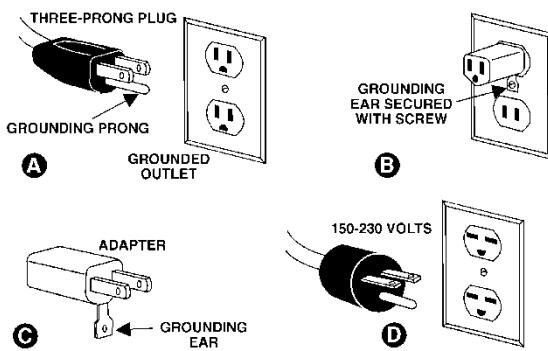

Figure 6-1
The JWBS-15 and JWBS-18 Band Saw are for use on a nominal 115-V circuit, and have a grounded plug that looks like the plug illustrated in sketch A in Figure 6-1. A temporary adaptor that looks like the adaptor illustrated in sketches B and C may be used to connect this plug to a 2-pole receptacle as shown in sketch B if a properly grounded outlet is not available. The temporary adaptor should be used only until a properly grounded outlet can be installed by a qualified electrician. The green colored rigid ear, lug, or the like extending from the adaptor must be connected to a permanent ground such as a properly grounded outlet box cover. Whenever the adaptor is used, it must be held in place by a metal screw.
2. The 115V attachment plug supplied with the band saw (A, Figure 6-1) must be replaced with a UL/CSA listed plug suitable for 230V operation (D, Figure 6-1).
The band saw with a 230V plug should only be connected to an outlet having the same configuration (D, Figure 6-1). No adapter is available or should be used with the 230V plug.
This tool is intended for use on a circuit that has an outlet that looks like the one illustrated in D, Figure 6-1. The tool has a grounding plug that looks like the plug illustrated in D. Make sure the tool is connected to an outlet having the same configuration as the plug. No adapter is available or should be used with this tool. If the tool must be reconnected for use on a different type of electric circuit, the reconnection should be made by qualified service personnel; and after reconnection, the tool should comply with all local codes and ordinances.